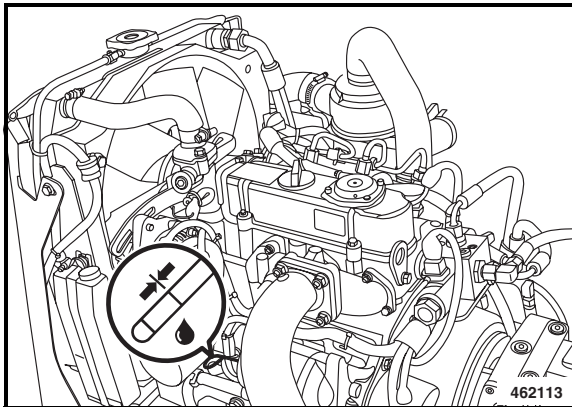

Fig. 113
- Pull the dipstick (Fig. 113) out, wipe it off with a lint-free, clean cloth and reinsert it until it bottoms.